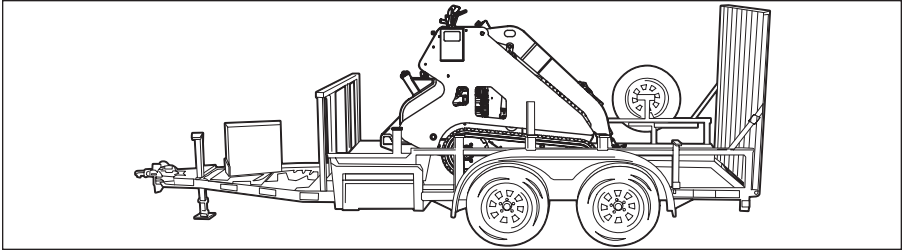

Figure 3-13 Transport Position on Trailer
**NOTE:** The longer the attachment, like the trencher, the more the attachment needs to either be tilted or raised. It is recommended to back the machine onto the transport trailer and position the machine so that the heaviest weight (center of balance) is towards the front (hitch end) of the trailer. See Figure 3-13.